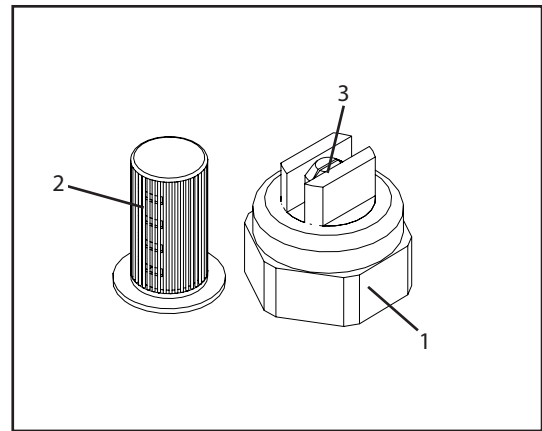

Figure 2: Spray Nozzle
- Remove spray nozzle (1) (Figure 2) from sprayer.
- Disassemble filter (2) and spray tip (3). NOTE: Do not use a wire to clean opening (3) in spray tip.